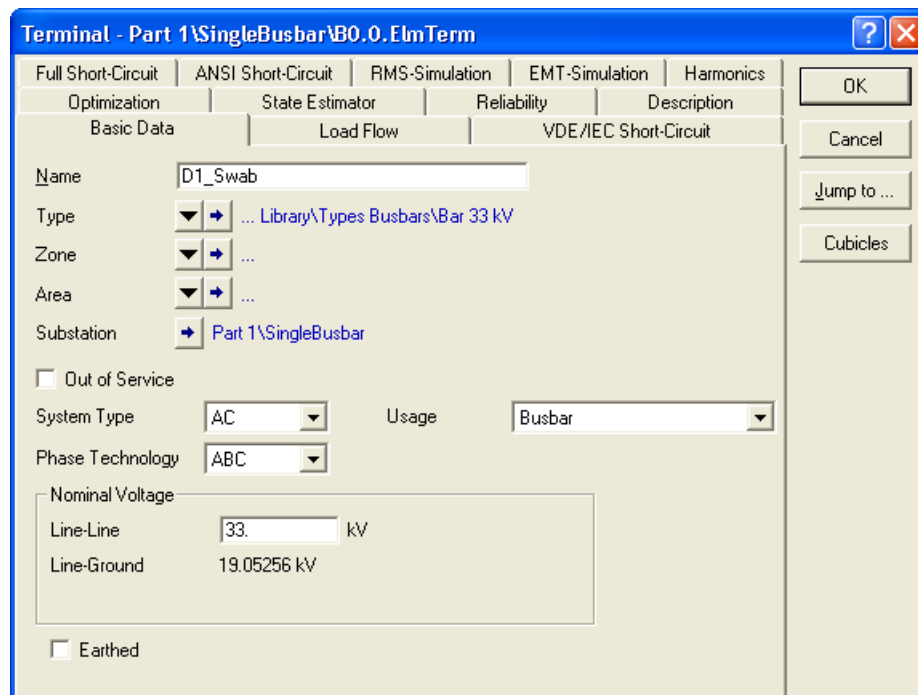

Fig. D.7: The busbar edit dialogue
- ▶ Double click the upper terminal. The edit dialogue for the terminal, as depicted in the figure D.7 will pop up.